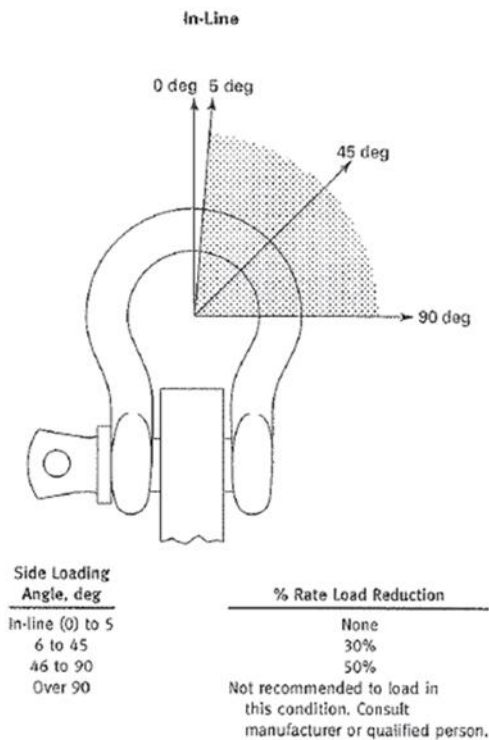

Figure 9 - Percent Rate Load Reduction as a Result of Side Loading
- Note: De-rate the shackle by 30% capacity if it is being pulled at 45° from perpendicular to the pin, or by 50% of capacity if being pulled at 90° or greater (see Figure 9).